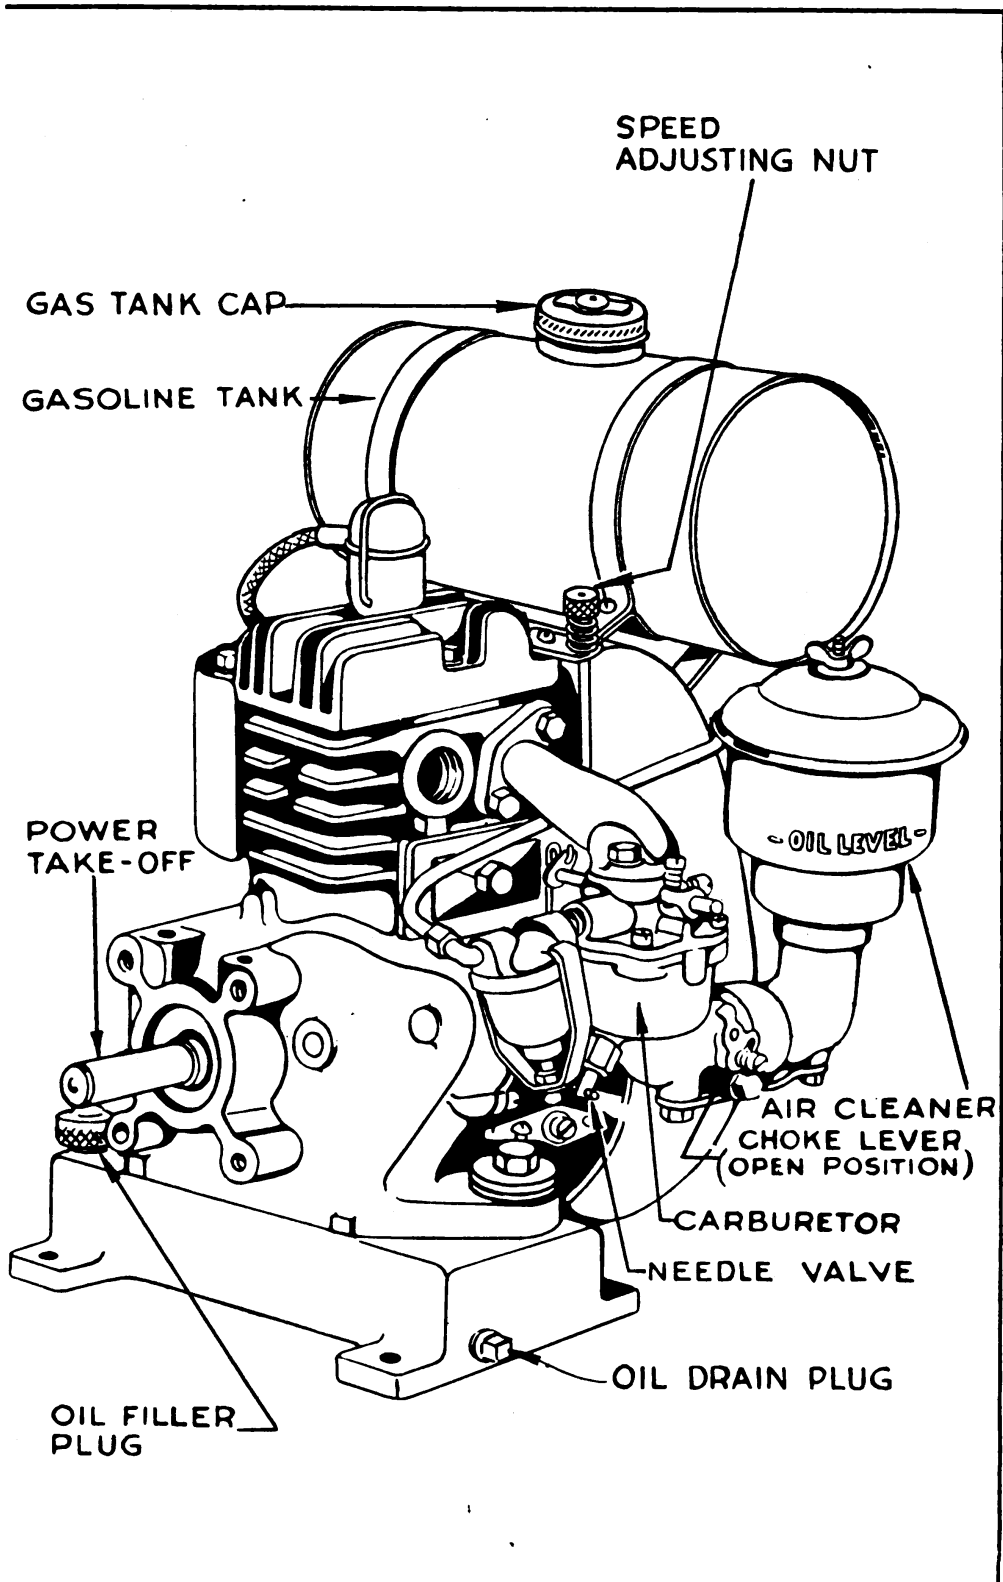
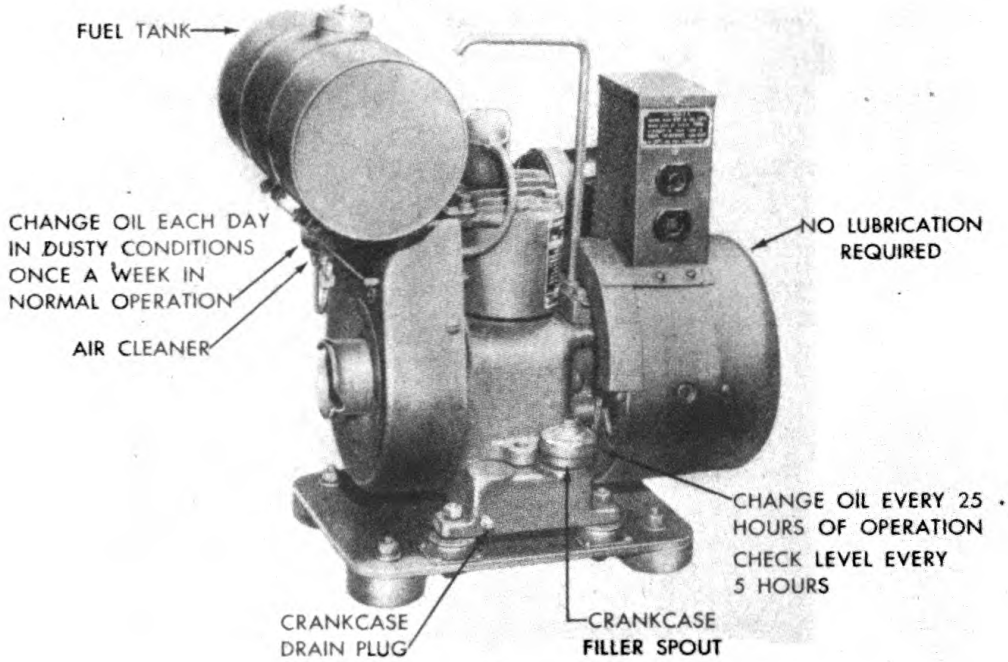

Figure 2.—Engine for Power Unit PE-77-E
Figure 3.—Lubrication
c. Engine.—The engine is a single-cylinder, four-cycle, L-head, air-cooled, rope-starting gasoline engine (fig. 2).
6. PREPARATION FOR USE.—*a.* Remove the oil filler cap which is painted blue and located on the top of the engine base (fig. 2). and fill the crankcase of the engine with a high-grade lubricating oil (fig. 3 for proper oil).
7. **OPERATION.**—*a. Starting.*—(1) Open gasoline shut-off valve (fig. 2) on top of the gasoline tank (at the bottom of the gasoline tank on PE-77-E) by turning valve to the left and allowing the carburetor float chamber to fill up. Completely close carburetor choke by turning choke lever to the left (fig. 2). If engine is hot it may be necessary to close choke.
(2) Insert the knotted end of the starter rope in the notch of the starter pulley and wind the rope clockwise around the pulley. Crank the engine a few times to prime it. After the engine has been primed, open choke about half-way and repeat the cranking operation to start the engine. As the engine warms up gradually, open choke by turning the choke lever (fig. 2) toward the right until the engine operates smoothly with the choke wide open.
(3) If it is necessary to keep the choke partially closed for several minutes before the engine runs smoothly, the carburetor is set too lean and the needle valve located in the lower part of the carburetor (fig. 2, 8 or 9) should be opened slightly by turning to the left (counter clockwise). **CAUTION: Except in cases of extreme emergency, under low temperature conditions operate the unit for a period of not less than ten minutes before applying load.**
13. LUBRICATION.—*a. General.*—Correct lubrication of the engine is important. Lubrication data must be observed. The chart shown in figure 3 gives the proper oil to use at various temperatures and lubrication points. Lubrication of the generator is not required.
b. Crankcase.—(1) Check the oil level in the crankcase every 4 hours of service or every gasoline refill period. Add sufficient oil to bring the level up even with the top of the (blue) oil filler cap opening.